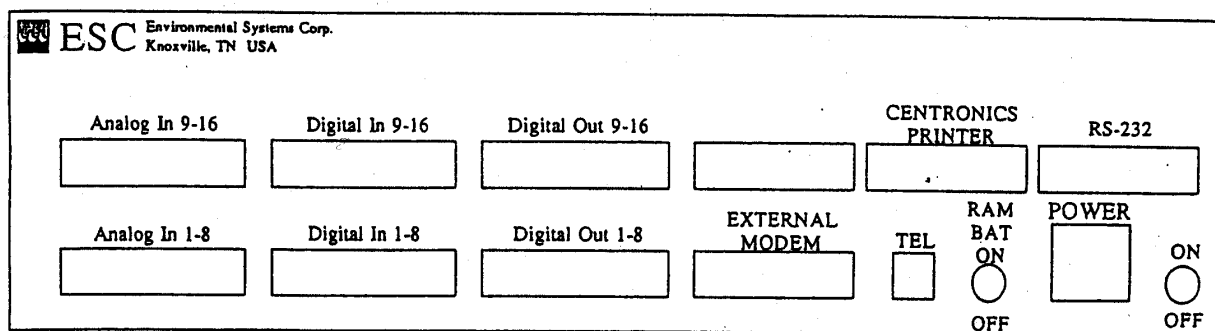

Figure AH 1.1.2
3. Rear Panel - A typical rear panel for an ESC 8800 data logger is shown in Figure AH.1.1.2. The rear panel may be fully populated with all the connections even if the options for the additional connectors are not implemented in your logger. Table AH.1.1.1 lists the ESC 8800 rear panel configuration.
NOTE: Refer to Figure AH.1.1.2. For 16 channels (double-ended), the connections for channels 1-8 are on the bottom terminal. Channels 1-8 are marked, from left to right, (+1-, +2-, etc.). Channels 9-16 (if applicable) are similarly marked on the top analog terminal. For 32 channels (single-ended), channels 1-16 are on the bottom terminal strip. Each terminal strip has a ground point at either end.
3. Digital Input/Output - If digital input or output options are supplied with the ESC 8800 Data Logger, the rear panel connectors marked "Digital In 1-8" have been pre-wired internally (see Figure AH.1.1.2.)
- b. Connect an RS-232 cable between the modem and the ESC 8800 data logger rear panel External Modem connector (see Figure AH.1.1.2).
- c. Connect one end of the modem power adapter into the appropriate connector on the modem and the other end into a source of 120 VAC power. If the ESC 8800 Data logger is rack mounted, the auxiliary AC power connector on the data logger rear panel (see Figure AH.1.1.2) may be used. This completes the hookup of the external modem.